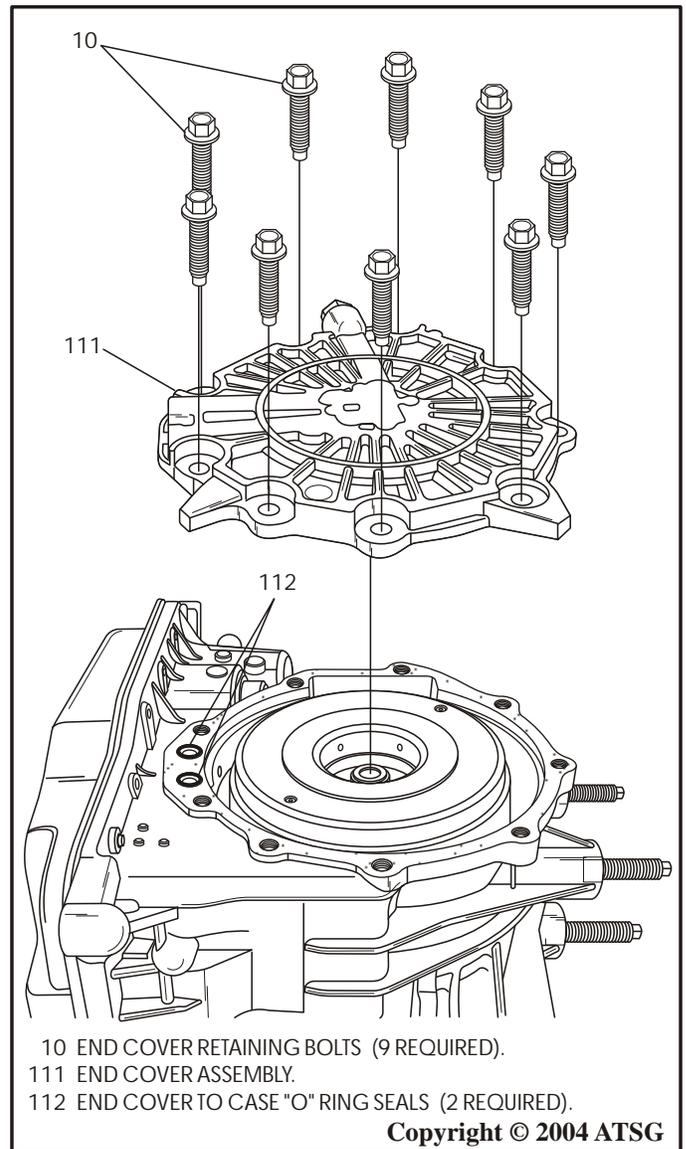

Figure 179
54. Install the completed end cover onto transaxle, as shown in Figure 179.
Note: Ensure that "O" ring seals are still in place, as shown in Figure 179.
55. Install the nine end cover retaining bolts, as shown in Figure 179.